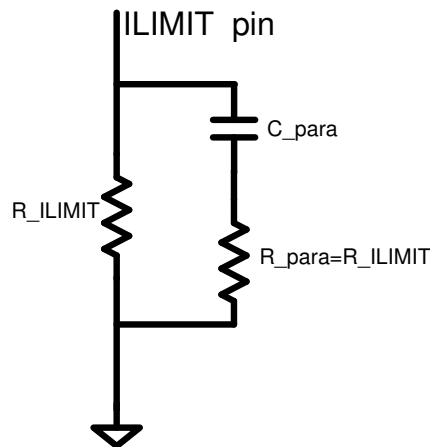

图 10-21. RC Network in Parallel with  $R_{limit}$
- In order to meet the MFI OC requirement, an RC network is needed in parallel with  $R_{limit}$  resistor as shown in 图 10-21. Suggest selecting  $R_{para} = R_{limit}$ ,  $C_{para} = 100$  nF.